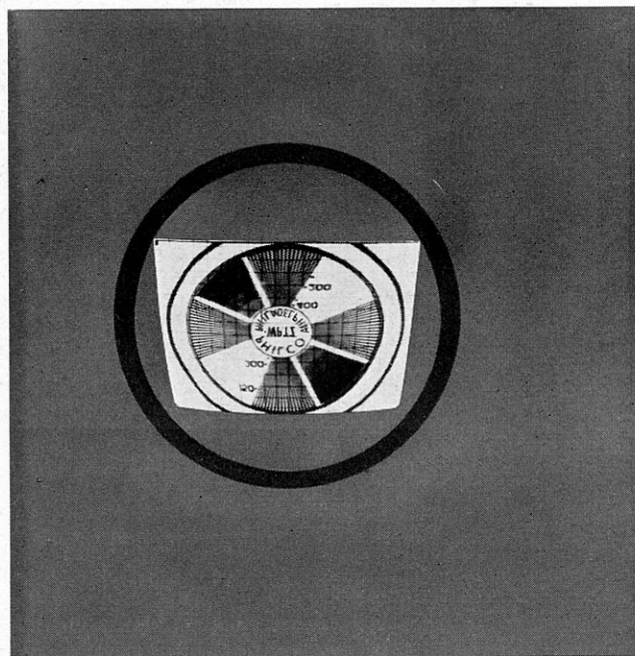

FIGURE 15. Keystone Pattern
15. Turn the OFF-ON-TONE control to OFF. Remove the test leads and the 10-inch test cable, and connect the picture-tube connector to the base of the tube. Turn the OFF-ON-TONE control to ON, and observe that a keystone pattern similar in outline to figure 15 appears on the face of the tube.